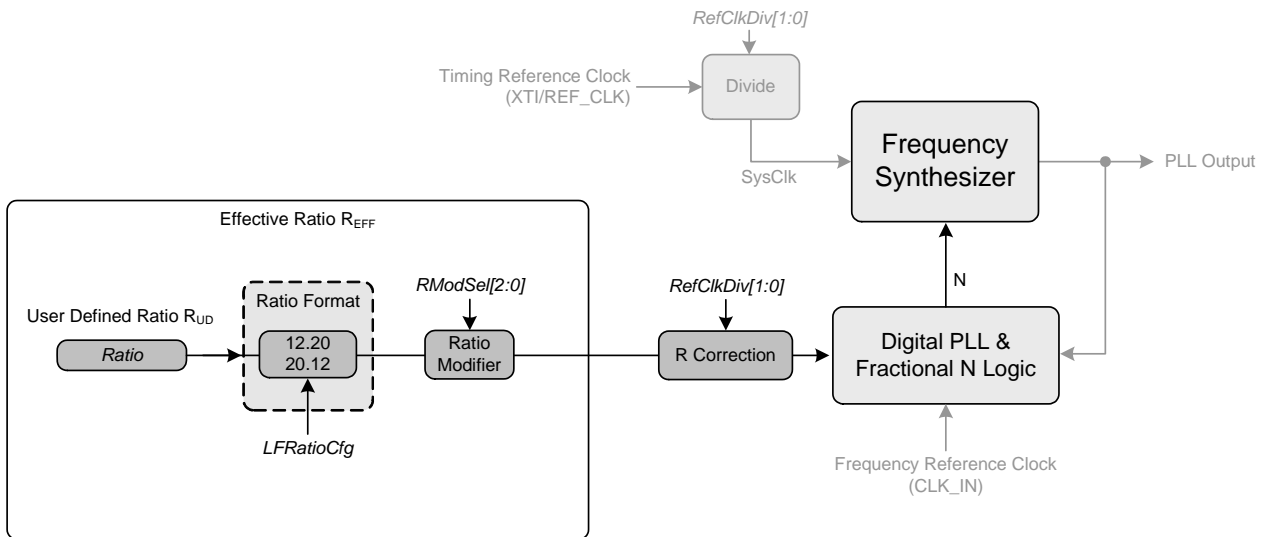

Figure 17. Ratio Feature Summary
The  $R_{UD}$  is the user defined ratio stored in the register space. The resolution for the  $R_{UD}$  is selectable by setting *LFRatioCfg*. R-Mod is applied if selected. The user defined ratio, and ratio modifier make up the effective ratio  $R_{EFF}$ , the final calculation used to determine the output to input clock ratio. The effective ratio is then corrected for the internal dividers. The conceptual diagram in Figure 17 summarizes the features involved in the calculation of the ratio values used to generate the fractional-N value which controls the Frequency Synthesizer.
- Changes made to the registers which affect the Fraction-N value that is used by the Frequency Synthesizer. This includes all the bits shown in Figure 17 on page 19.